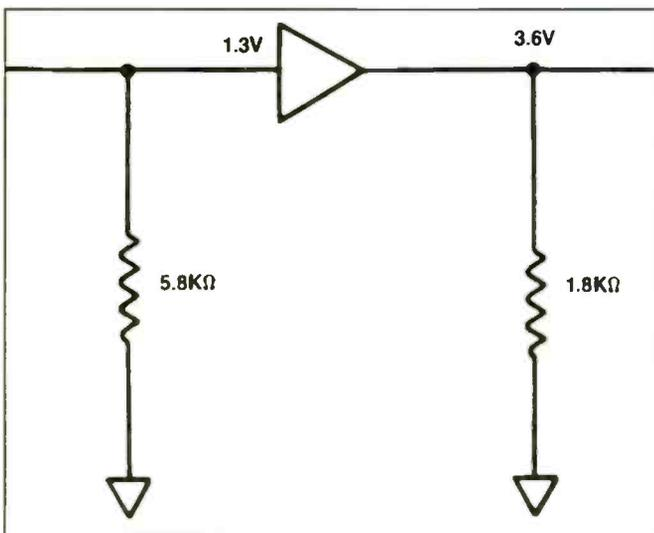

Figure 1. What is the dB gain of this amplifier?
3. Figure 1 shows an amplifier with a signal voltage input of 1.3V and an output signal voltage of 3.6V. What is the dB gain of the amplifier?